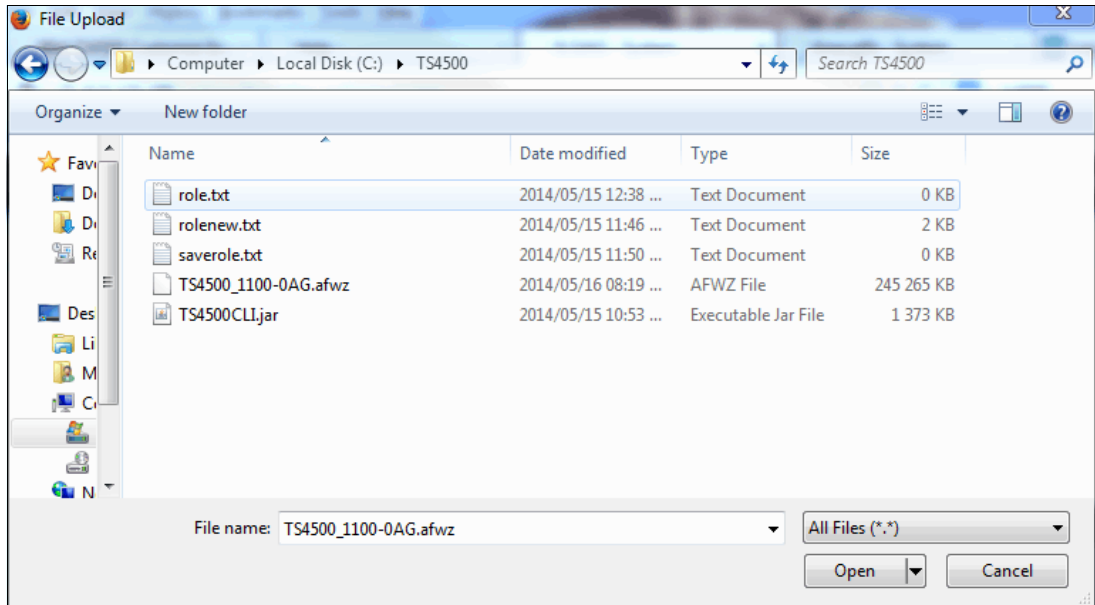

Figure 4-141 File Upload
2. On the File Upload window, browse to the library firmware image and click **Open**, as shown in Figure 4-141.